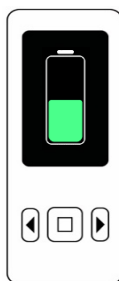

Fig. 5 **STATERA vi** endo motor is charging
- While charging, the battery icon appears on the motor's screen (see Fig. 5). Once charging is complete, the motor's screen and the blue LED on the cradle will turn off.